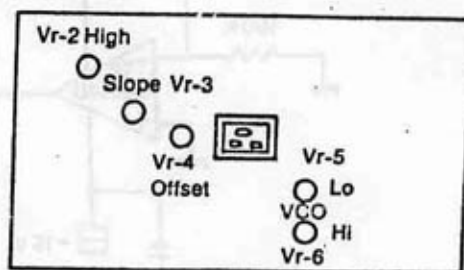

Fig. 2 Rear Pannel
a. Slope Adjustment Ref. FIG. 2